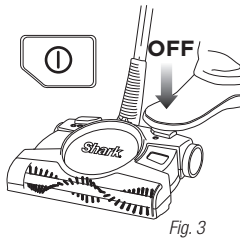

Fig. 3
- 3 Using your foot, press the power button and push the unit forward over the surface you wish to clean. (Fig. 3)
- 1 Always make sure that the unit is turned off. (Fig. 3)